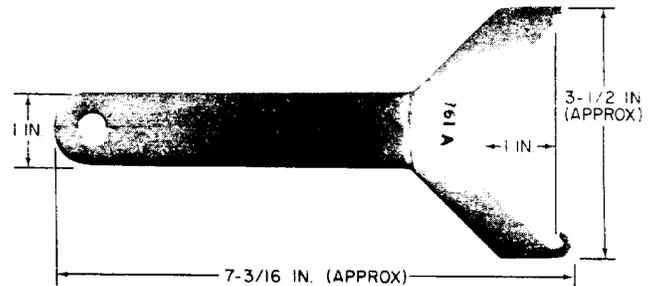

Fig. 2—761A Extractor Tool
2.02 **761A:** The 761A tool (Fig. 2) is used to extract or insert plug-in trunk units in the No. 4A and 4M Toll Switching Systems.